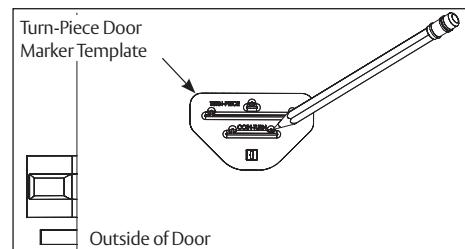

Figure 12
- Mark two holes for coin-turn. (Figure 12)
Cylinder must be oriented correctly. (Figure 12)